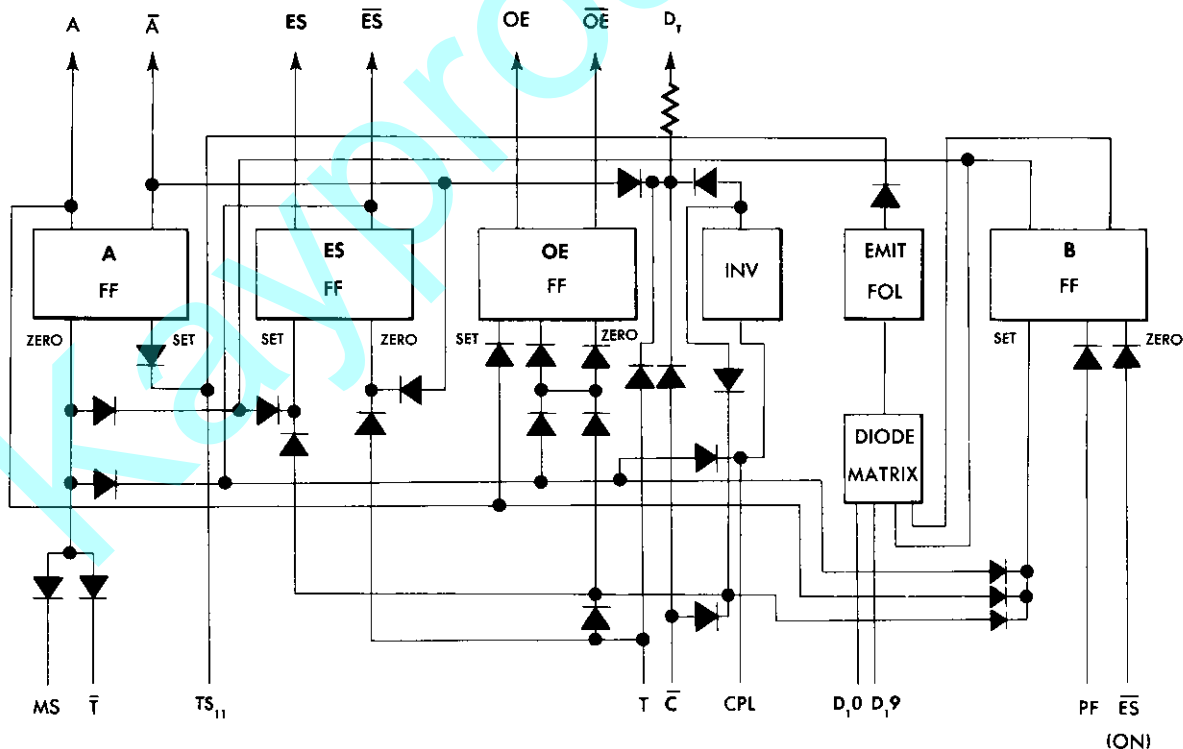

Figure 4-10. "B" Board Block Diagram.
4-6 B Board Located on the B board, as shown in Figure 4-10, are the A, B, and ES flip-flops associated with the end-of-scan logic, the OE FF associated with the compute logic, an inverter, and an emitter follower. The emitter follower is driven by the diode matrix, and provides the "O" and "9" CPL lockout for Decade 1 by shorting transfer switch position 11 (TS_{11}) to ground.
All FF's in the V34 and V35 are triggered by positive pulses as described in Section 4-4 except the A FF. Figure 4-10 shows the A FF trigger diodes reversed. The triggers for the A FF operate in the same manner as in the other FF's except that the trigger turns the transistor on rather than off. The MODE switch (MS) controls the zero trigger to A when B is zero and ES is set. A is zeroed at the middle of the bit by \bar{T} .